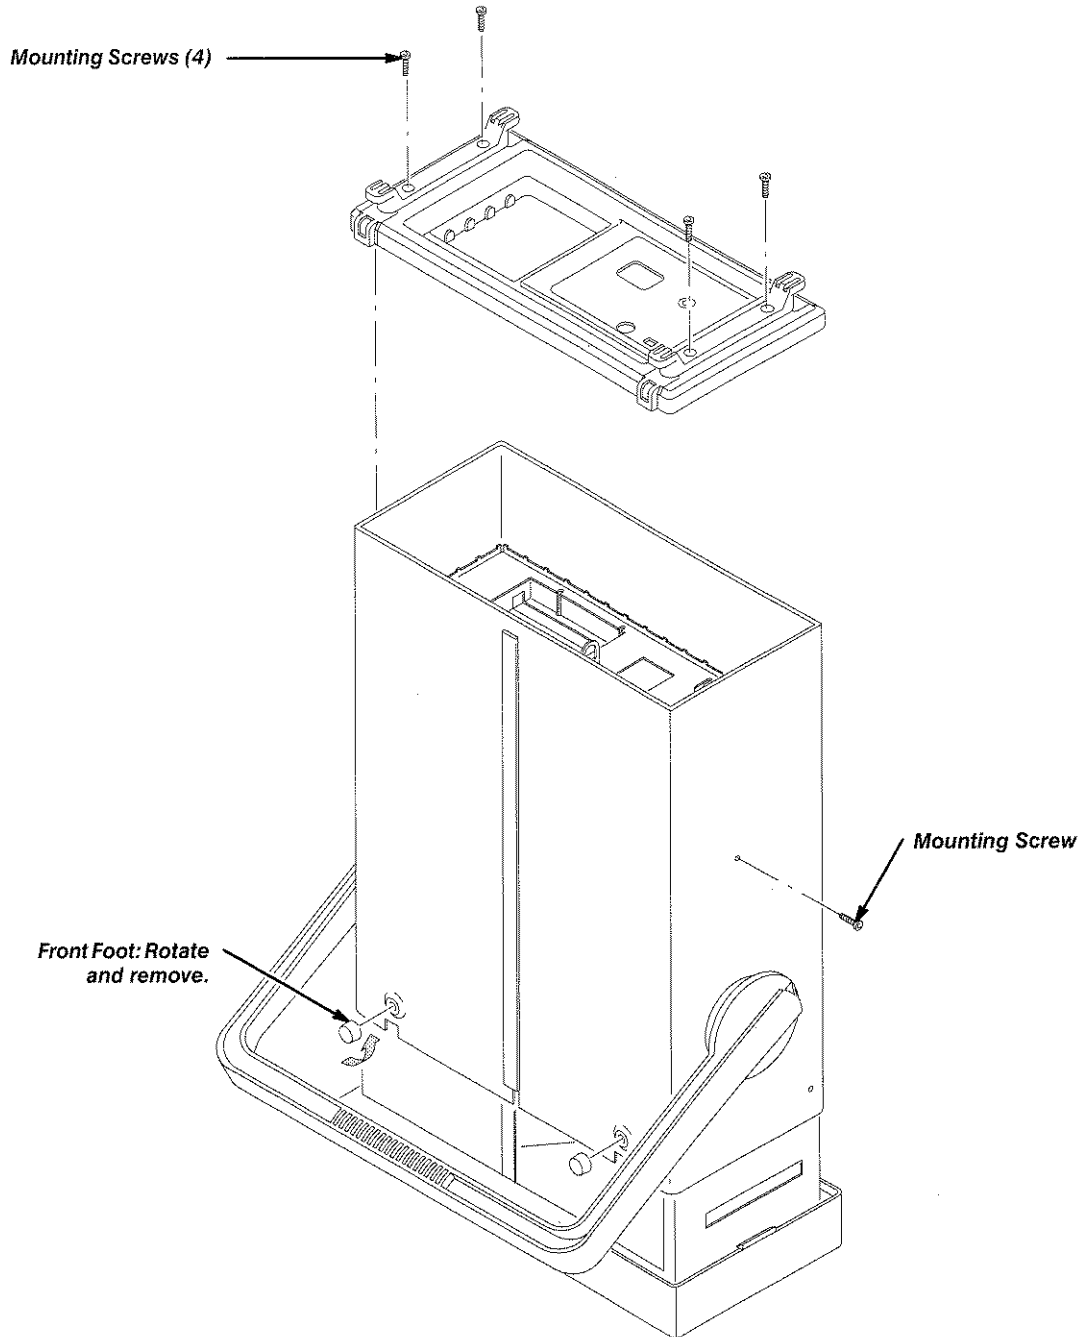

Figure 8-7: Rear Cover, Cabinet, and Feet Removal
Before removing the rear cover or cabinet, install the optional front cover on the front panel of the oscilloscope (if available) and then position the oscilloscope as indicated in Figure 8-7.
1. Position the oscilloscope as indicated in Figure 8-7.